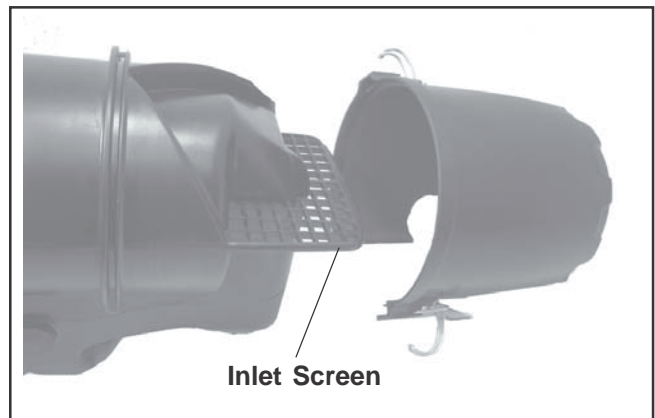

Figure 4-2. Accessing Inlet Screen.
2. Check and clean the screen area on the inlet side. Pull the air cleaner paper element out of the housing on opposite side. See Figures 4-2 and 4-3.